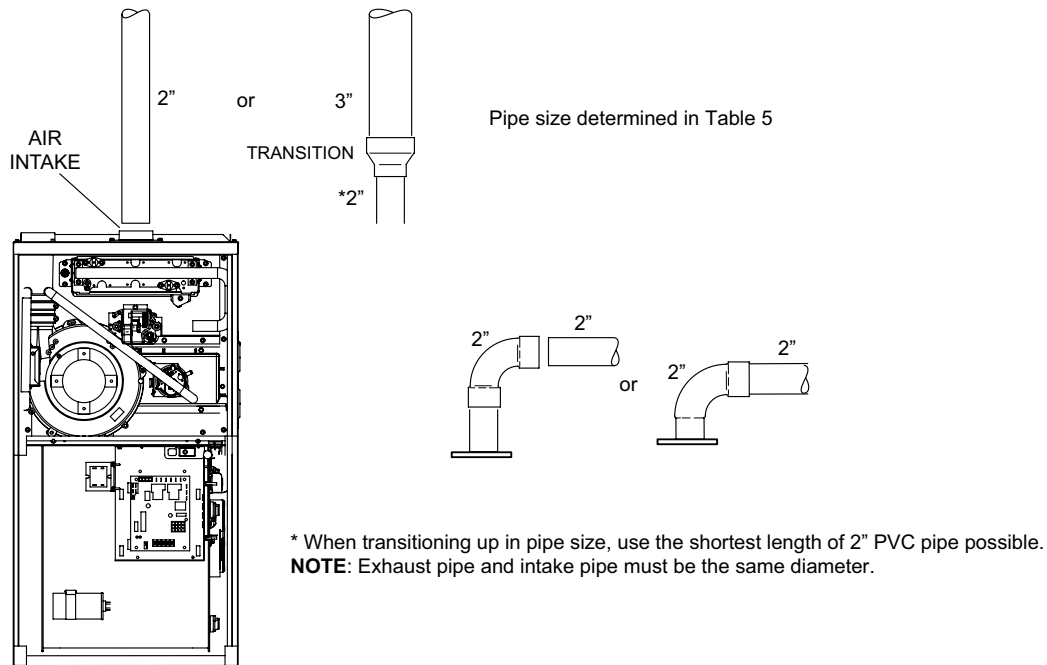

Figure 21. Typical Air Intake Pipe Connections in Upflow Direct Vent Applications
1. Use field-provided materials and the factory-provided air intake screen to route the intake piping as shown in Figure 21 or Figure 22. Maintain a minimum clearance of 3" (76mm) around the air intake opening. The air intake opening (with the protective screen) should always be directed forward or to either side in the upflow position, and either straight out or downward in the horizontal position.